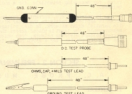

FIGURE 1.3 TEST LEADS
The following leads, as shown in Figure 1.3, are furnished with the Model 808A:
(1) Make visual inspection of the unit to see that it has not been damaged in shipment. Be sure that all test leads are with the unit. Refer to Figure 1.3 - Test Leads. Observe if the indicator is at zero. To reset to zero, turn mechanical adjust on the indicator with a screwdriver. Plug unit into the a.c. line and operate the power switch to ON. The pilot light should come on.
(2) After one minute warm-up, turn FUNCTION SELECTOR to A.C. VOLTS and the CIRCUIT SELECTOR to NORMAL. Rotate the RANGE SELECTOR to 2 VOLTS. Adjust Zero Adjust Control until the indicator comes to zero.
(3) Turn FUNCTION SELECTOR to + 2.0, and - 2.0, respectively. The indicator should stay approximately at zero.
(4) Turn FUNCTION SELECTOR to OHMS. The